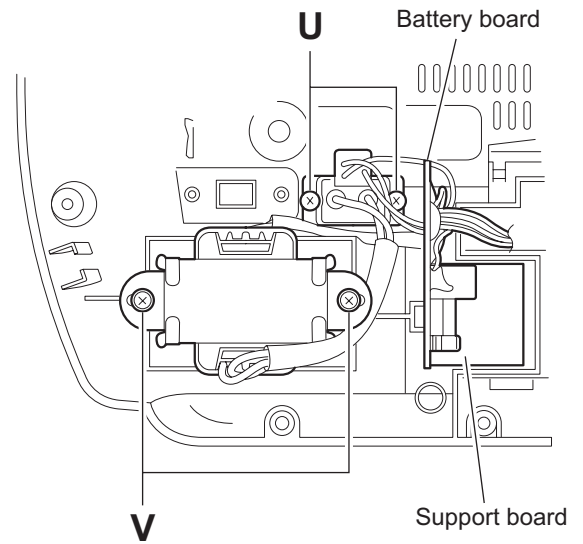

Fig.24
3.1.11 Removing the power transformer and the battery board (See Fig.24, 25)